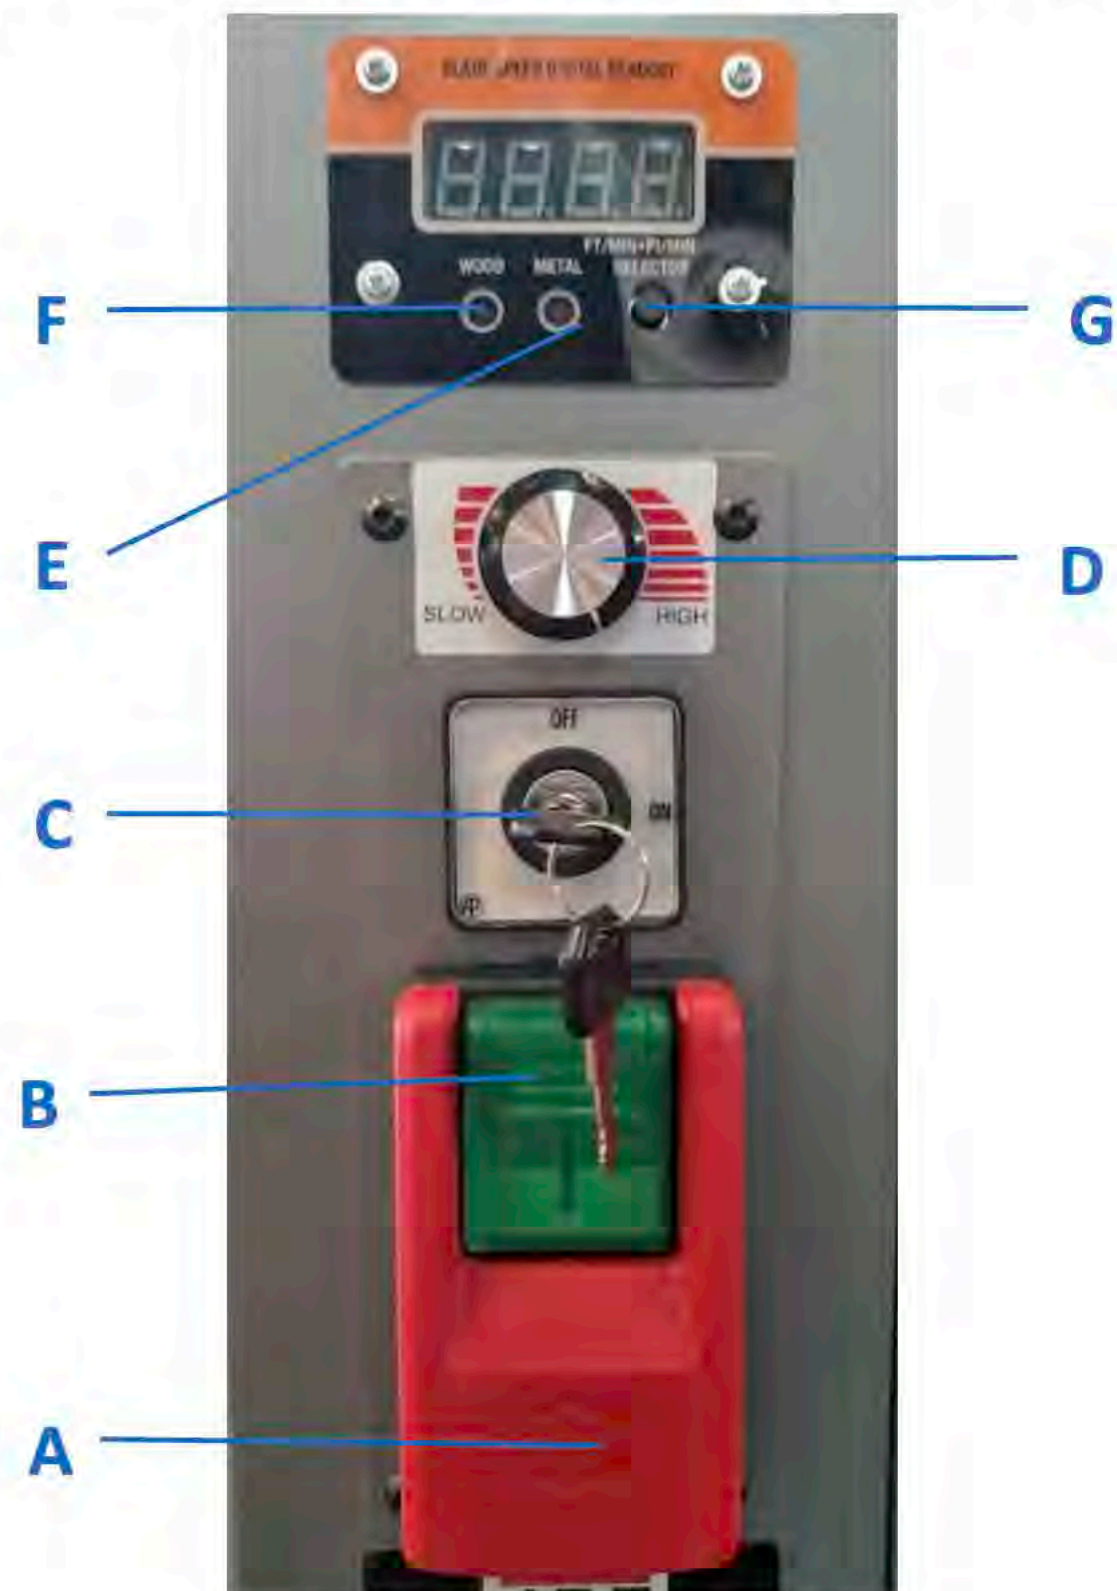

Figure 8-1 – Operating Controls
Refer to Figure 8-1.
1. Press the “Selection” button (G, Figure 8-1). The corresponding mode “Wood” LED (F, Figure 8-1) will light up when selected.
1. Press the “Selection” button (G, Figure 8-1). The corresponding mode “Metal” LED (E, Figure 8-1) will light up when selected.
The variable speed control dial (D, Figure 8-1) will adjust the blade speed during operation.